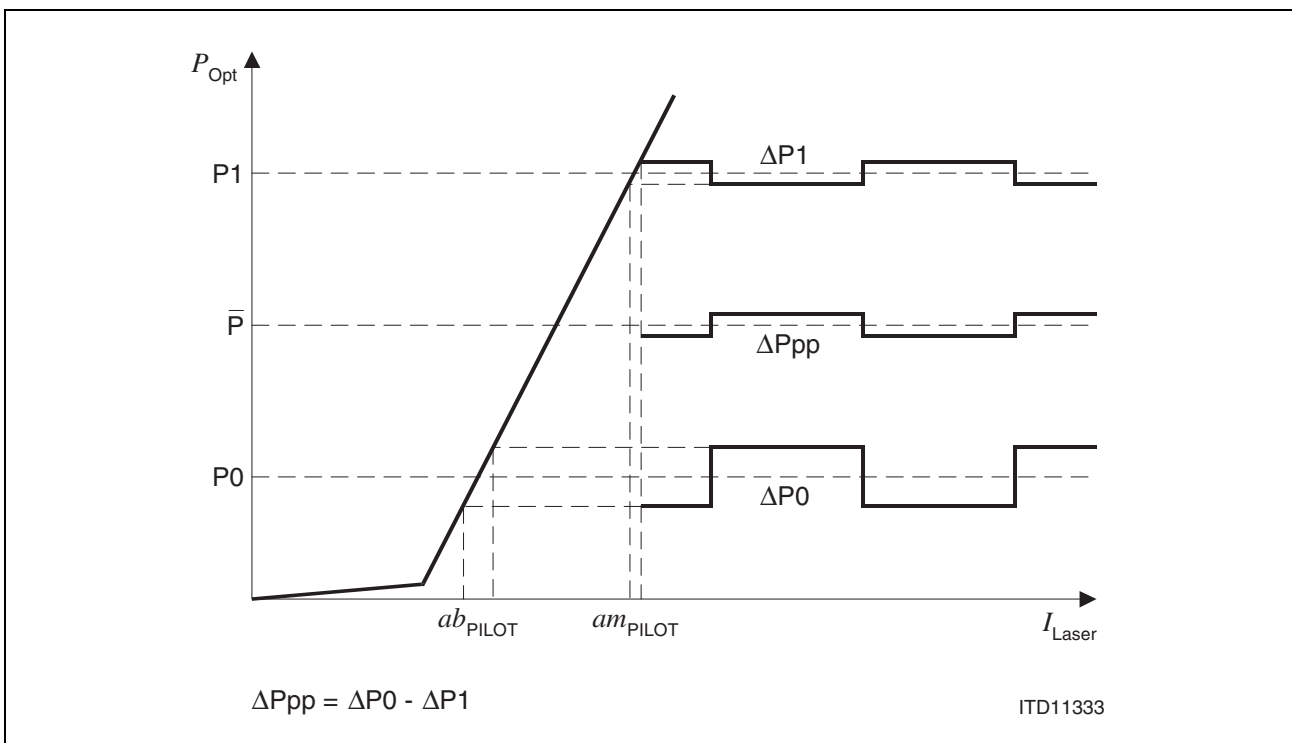

Figure 8 Modulation Current Control by Using a Pilot Signal
- 26) Out of amp_{PILOT} and ab_{PILOT} a factor $K = ab_{PILOT}/amp_{PILOT}$ can be defined, which is an important factor for the pilot control (for definition of amp_{PILOT} and ab_{PILOT} see Figure 8). For most laser diodes the optimum value of K is 1.44 (default value). If K is set close to factor 2 the modulation current and jitter may increase. If K is set close to factor 1 the modulation current may decrease. In both cases a malfunction of laser control is possible. A resistor between V_{CC} and RMRIP can be used for decreasing amp_{PILOT} . Further a resistor between V_{CC} and RBRIP can be used for decreasing ab_{PILOT} . So the factor K can be adjusted. For default factor K let RBRIP and RMRIP connected to V_{CC} ($= V_{CCA}$).